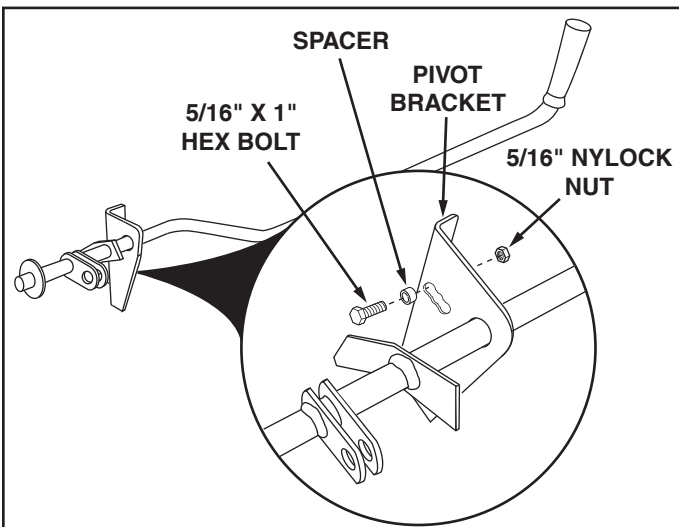

FIGURE 1
1. Assemble a 5/16" x 1" hex bolt, a spacer and a 5/16" nylock nut to the three position slot in the R.H. pivot bracket on the left lever assembly. Use the position closest to the bend in the bracket (lowest implement depth setting). See figure 1.
- b. For closer adjustment, move the hex bolt assembled in figure 1 to a position in the three position slot that gives better levelling.